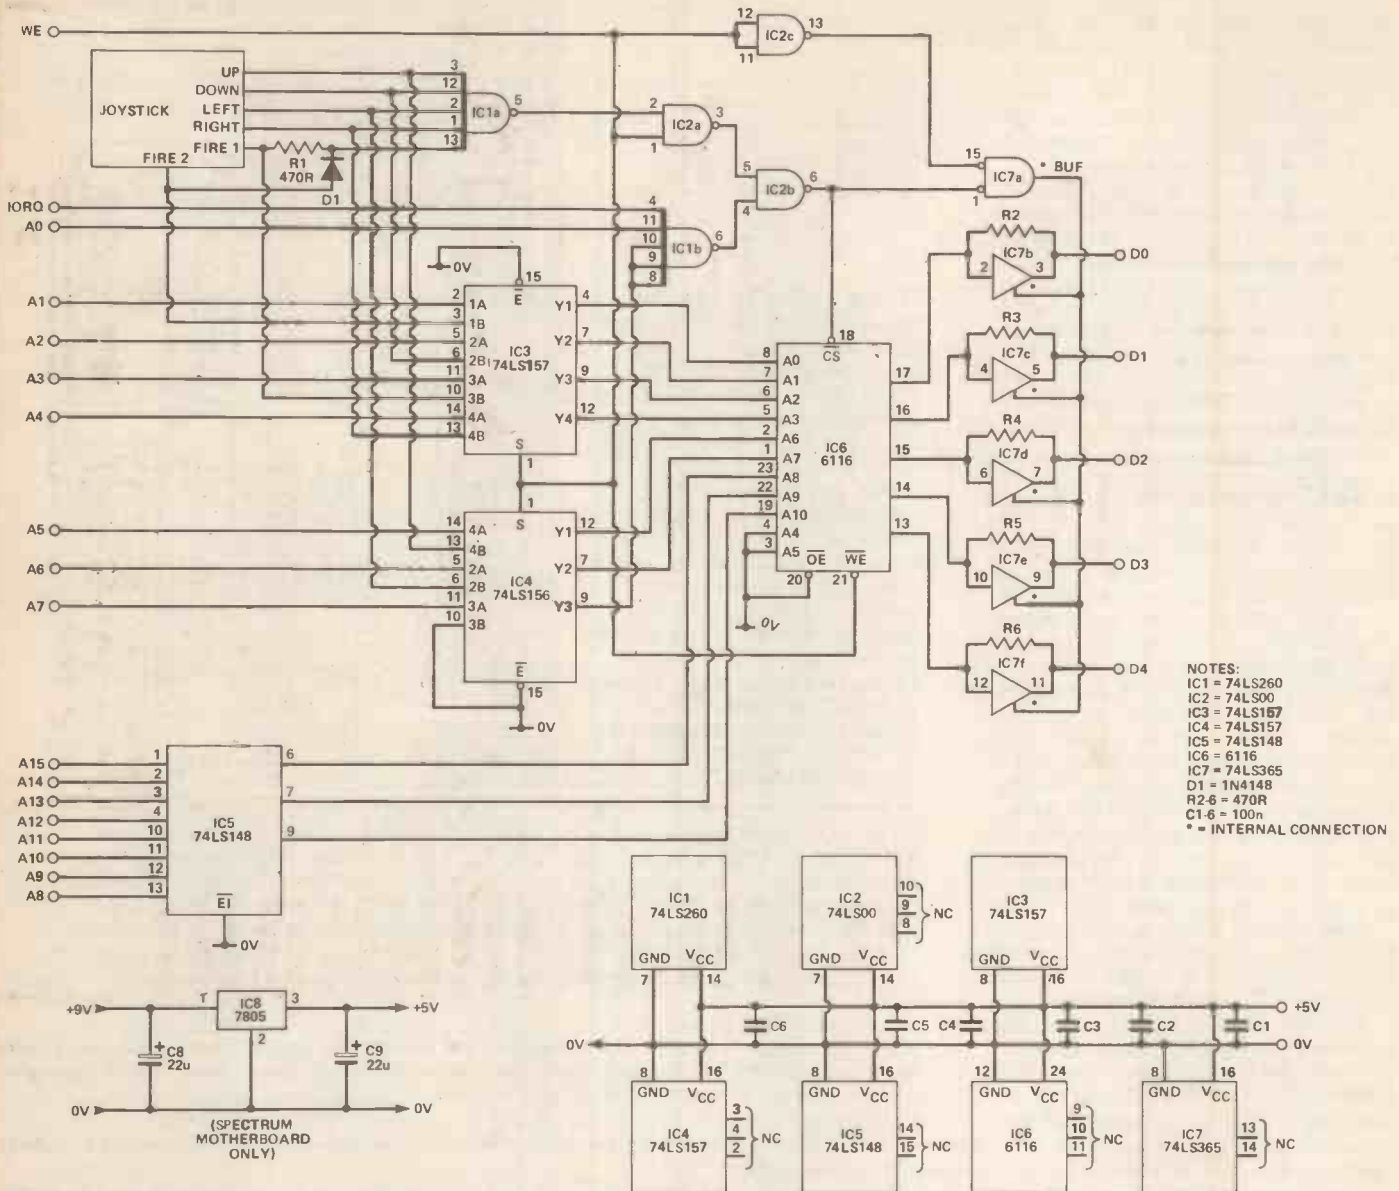

Figure 3. The full circuit of the Controller. ICs 3 and 4 are the "memory address switch" while IC7 controls the data direction.
Figure 3 gives the complete circuit for the joystick interface. As before, A8 to A15 are encoded by IC5 to give three address lines for the memory, IC6, a 6116 2K by 8-bit static CMOS RAM. IC3 and IC4 are 2-into-1 multiplexers connected as electronic switches — when SELECT (S) is at logic 0 the A inputs are connected to the outputs, and when at logic 1 the B inputs are selected.